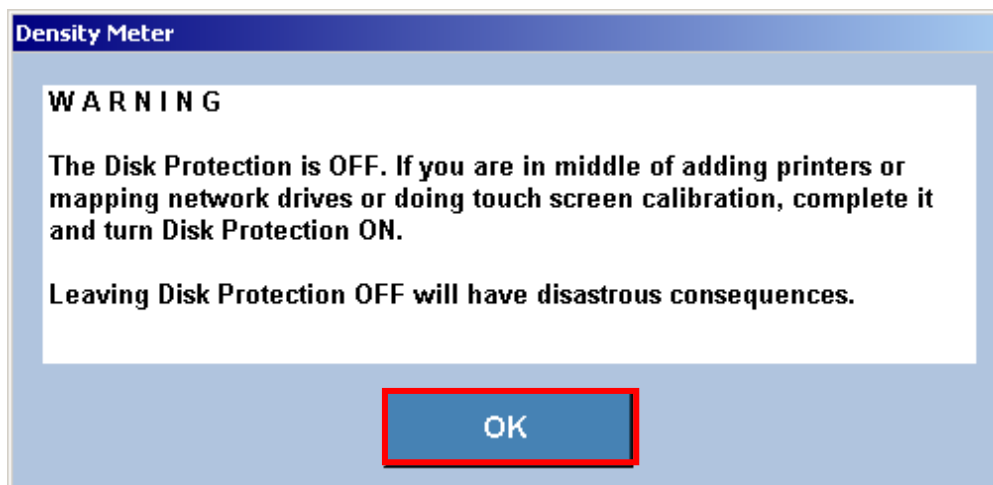

Figure 10.7 – Disk Protection Off Boot Message
7. When system reboots you will see another warning message that Disk protection is off (see Figure 10.7). Click the **Menu** button and enter the password (refer to Figure 10.1). The factory default password is 123, if was not modified by the Lab's Manager.